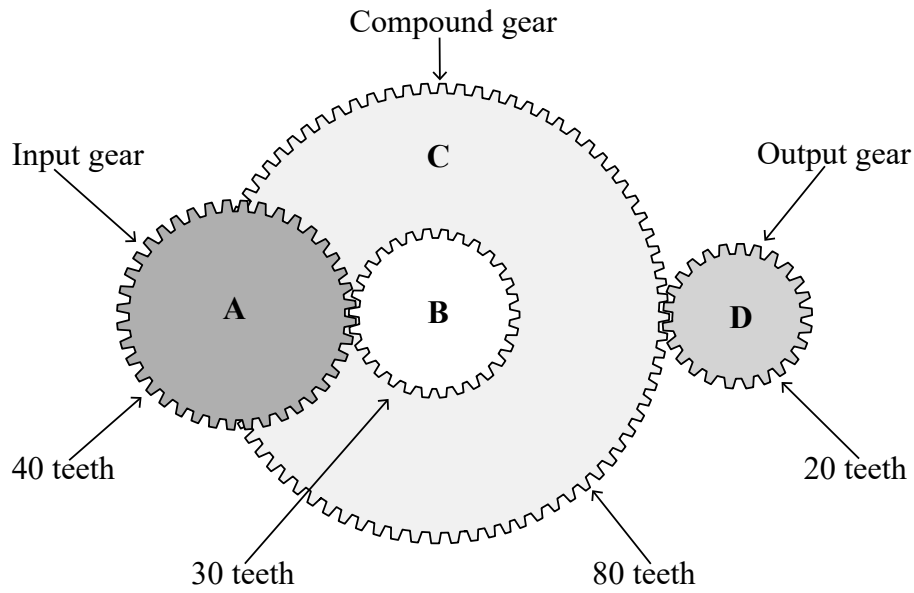

Fig. 3
- 3 (a) Fig. 3 shows a diagram of a compound gear train. The input gear, **A**, has 40 teeth and the output gear, **D**, has 20 teeth. The compound gear consists of gears **B** and **C** which rotate together on the same shaft. Gear **B** has 30 teeth and gear **C** has 80 teeth.